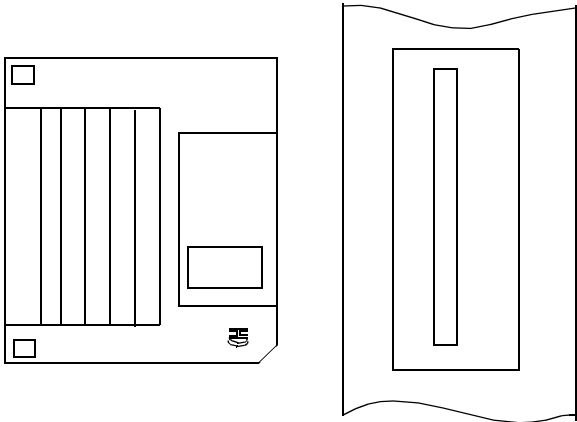

Figure 26 Inserting the diskette.
- 3. Insert the Setup diskette into the disk drive at the front of the cabinet. The diskette should be inserted as in Figure 26.